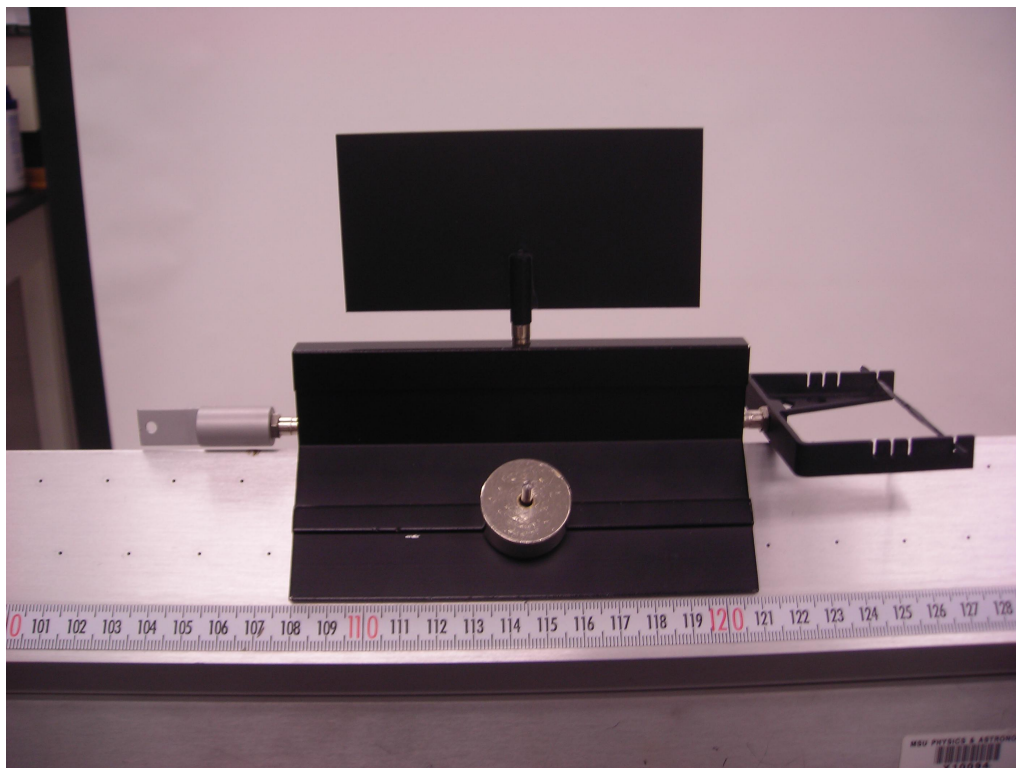

Figure 5.1: Cart with bumper.
- Two carts (one with bumper and one with blade, see Fig. 5.1)